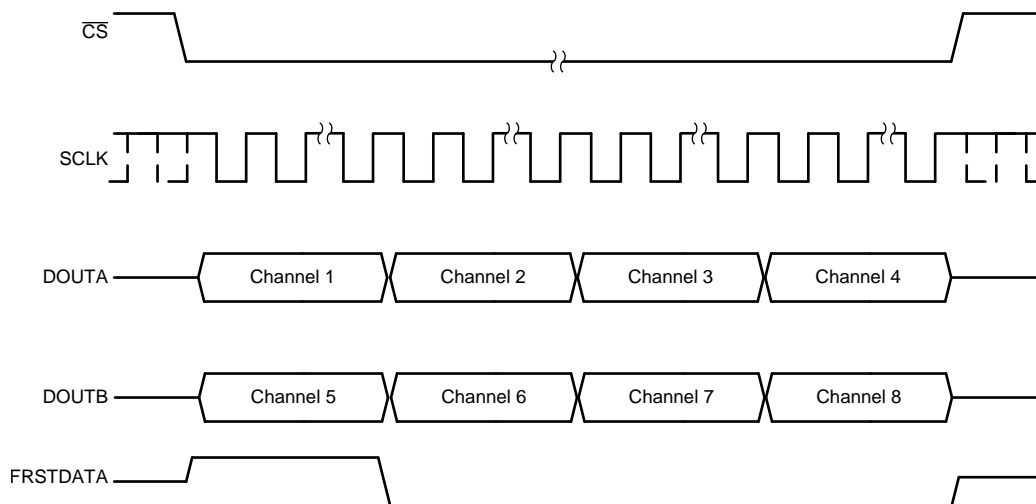

Figure 70. Data Read Back in the Serial Interface Using Both DOUTA and DOUTB Timing Diagram
- In order to minimize the time for the data read operation in serial mode, both DOUTA and DOUTB can be used to read data out of the devices. In this case, the conversion results from the first set of channels (channels 1-4 for the ADS8588S, channels 1-3 for the ADS8586S, and channels 1-2 for the ADS8584S) appear on DOUTA and the conversion results from the second set of channels (channels 5-8 for the ADS8588S, channels 4-6 for the ADS8586S, and channels 3-4 for the ADS8584S) appear first on DOUTB. To read the data for all channels, provide a total of $16 \times 4 = 64$ SCLK cycles for the ADS8588S, $16 \times 3 = 48$ SCLK cycles for the ADS8586S, and $16 \times 2 = 32$ SCLK cycles for the ADS8584S. This entire data frame can be created within a single \overline{CS} pulse or each group of 16 SCLK cycles can be individually framed by the \overline{CS} signal. An example timing diagram is shown in Figure 70.